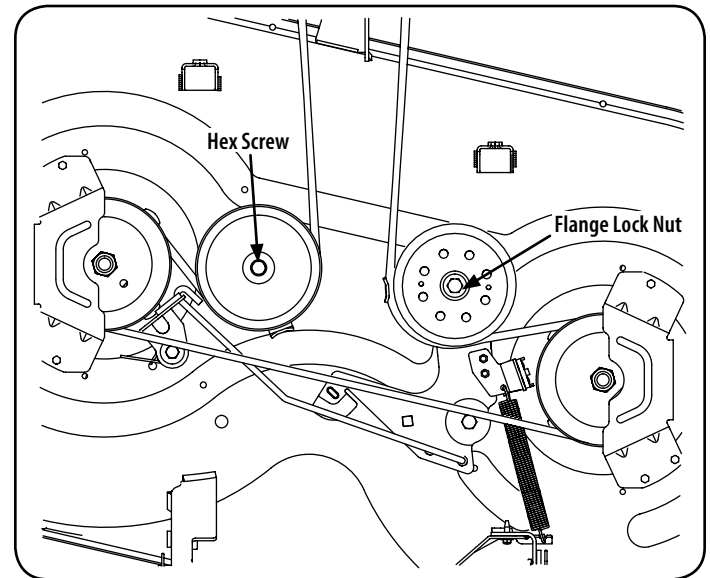
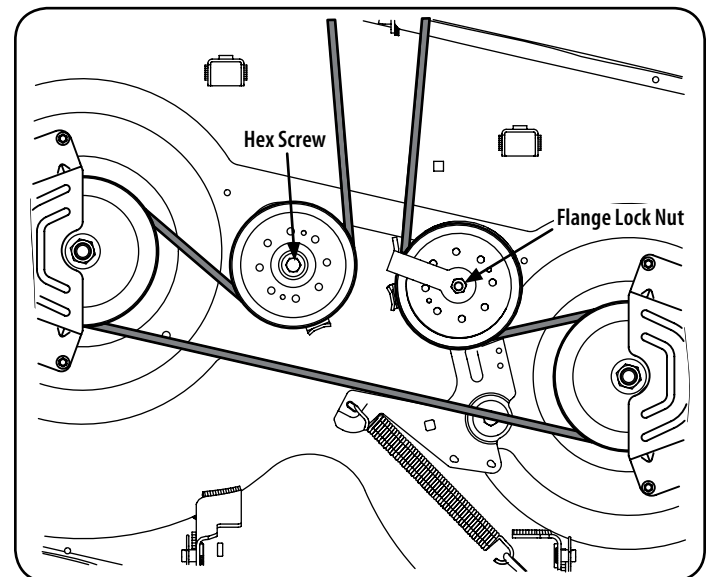
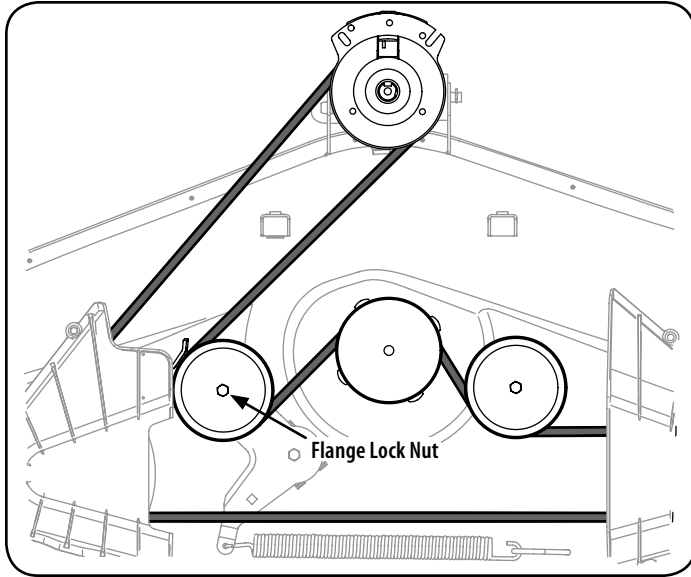

Figure 31
Figure 32
Figure 33
2. Loosen, but do not remove the flange lock nut on the left idler pulley for 50" and 54" Decks and the right idler pulley for 42" and 46" Decks. See Figure 31 for 42" Decks, Figure 32 for 46" Decks and Figure 33 for 50" and 54" Decks.